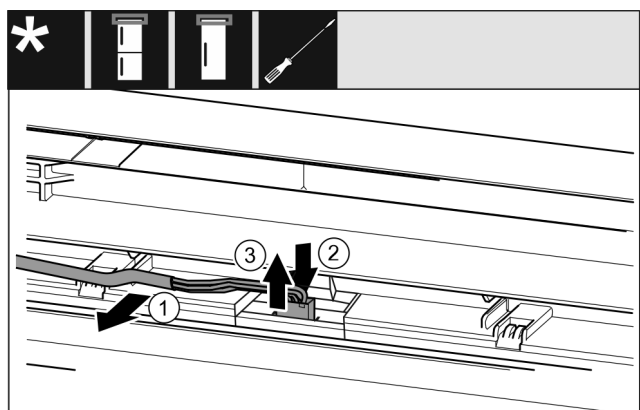

Fig. 20
- ▶ Carefully remove the gray cable from the guide in the door. Fig. 20 (1)
- ▶ Press the lug behind the plug backward. Fig. 20 (2)
- ▶ Carefully pull out the plug upward. Fig. 20 (3)